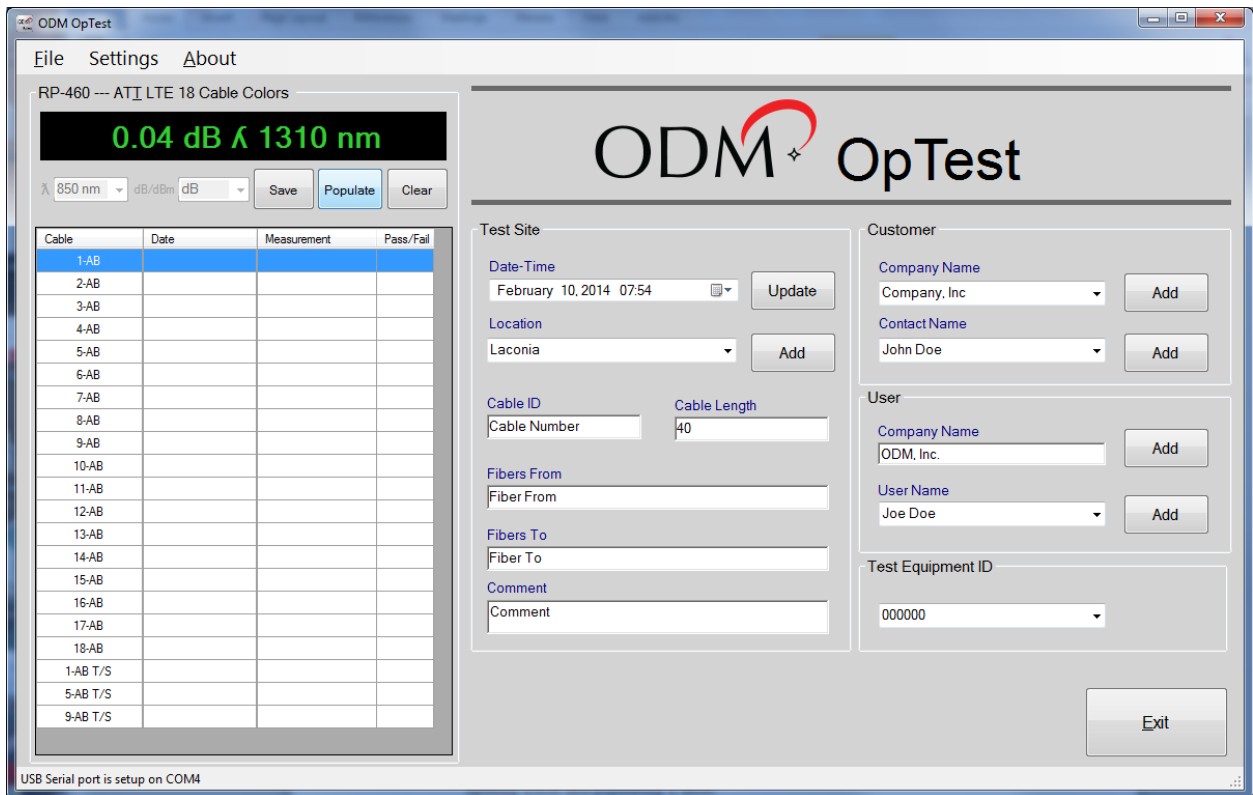

Figure 10: Active Mode.
- **Populate Button:** Populates the test results table with the cable color codes selected in the Settings/Report Settings on the menu bar. See Figure 10.